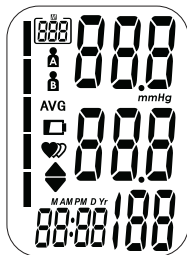

Fig. 2
4. Next, press and release the **START•STOP** button to start the measurement process; the unit will briefly flash a self-test, Fig 2.